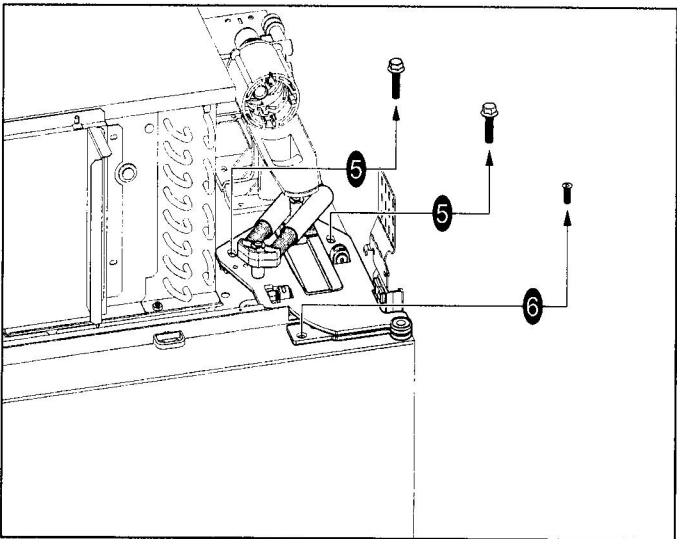

Figure 7-89. Cabinet Hinge Bolt Removal and Door Hinge Screw Removal
- 5. With the door closed, use a socket wrench with an extension and a 1/2" socket to extract the cabinet hinge mounting bolts (See Figure 7-89).
- 6. Extract the outermost door hinge mounting screw (See Figure 7-89).